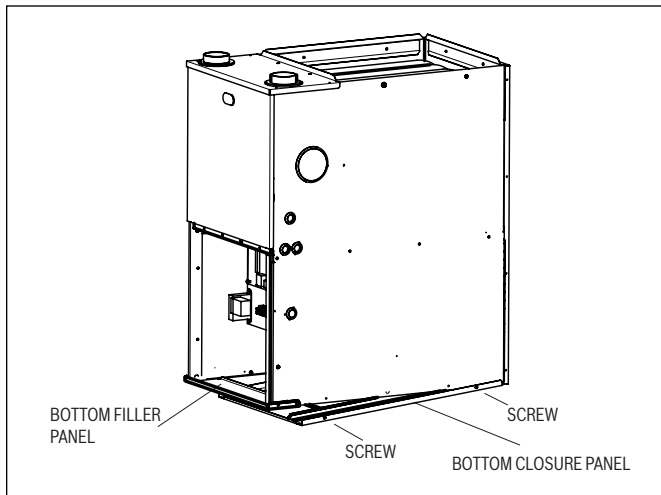

Figure 7 Removing bottom closure panel
1. Tilt or raise furnace and remove the screw holding bottom filler panel. (See Fig. 7.)